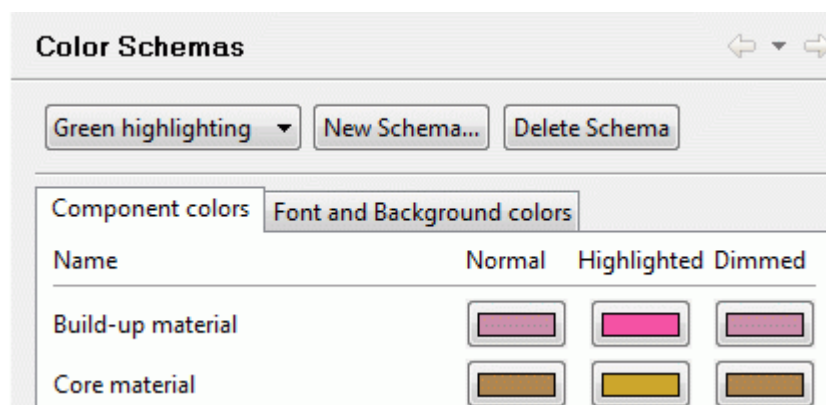

Figure 3. New schema name in the combo box in front of New Schema button
- Press **OK** button. A new schema is created and marked as selected for the current data - the name of the newly created schema is presented in the combo box in front of the **New Schema** button (see Figure 3).